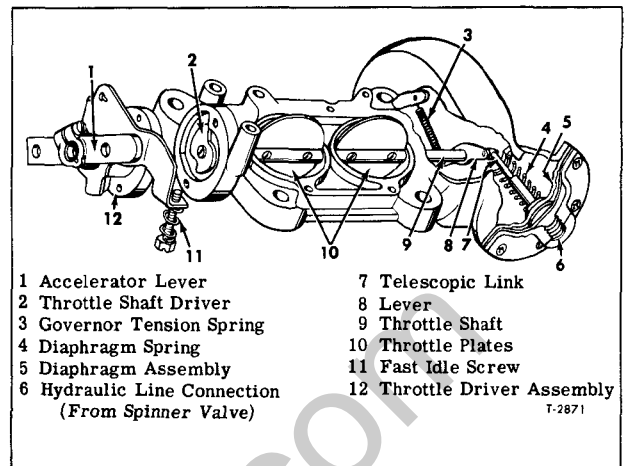

Figure 6—Governor and Throttle Operation
NOTE: Key numbers in text refer to figure 6.
The hydraulic control mechanism is incorporated into the engine oil pump in engine crankcase. The spinner valve is coupled to the engine oil pump drive shaft and turns at same speed as the oil pump ($\frac{1}{2}$ engine crankshaft speed). At one end of the valve is a weight and at other end is a spring. The spring holds the valve assembly in closed position until such time as centrifugal force acting on valve weight begins to move the valve toward the open position. Governor valve calibration is present to provide governor action at proper speed. Engine speed control is achieved by permitting pressure from oil pump to be applied at diaphragm (5) in slave unit (fig. 6).